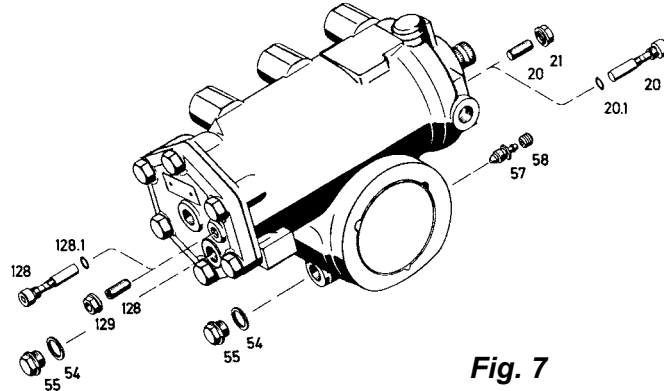

Fig. 7
- Versions with bleeder (57):
With the engine running, open the bleeder (57) until nothing but oil is coming out (**Fig. 7**). Afterwards, close the bleeder again until it is oil-tight.